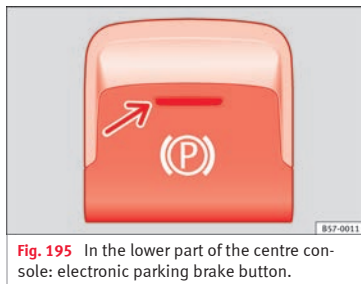

Fig. 195 In the lower part of the centre console: electronic parking brake button.
- Pull and hold the **» Fig. 195** button.
- The parking brake is activated when the control light of the **» Fig. 195** button (arrow) and the **red P** control light of the display in the dash panel are on.
- Press the button **» Fig. 195**. At the same time step hard on the brake pedal or, if the engine is running, press the accelerator pedal slightly.
- The control light of the **» Fig. 195** button (arrow) and the **red P** control light of the display in the dash panel go out.
The parking brake can be prevented from being automatically released by continuously pulling up the  **Fig. 195** switch when starting off.
- Pull and hold the  **» Fig. 195** button in this position to **forcefully** stop the vehicle. At the same time, an acoustic warning can be heard.